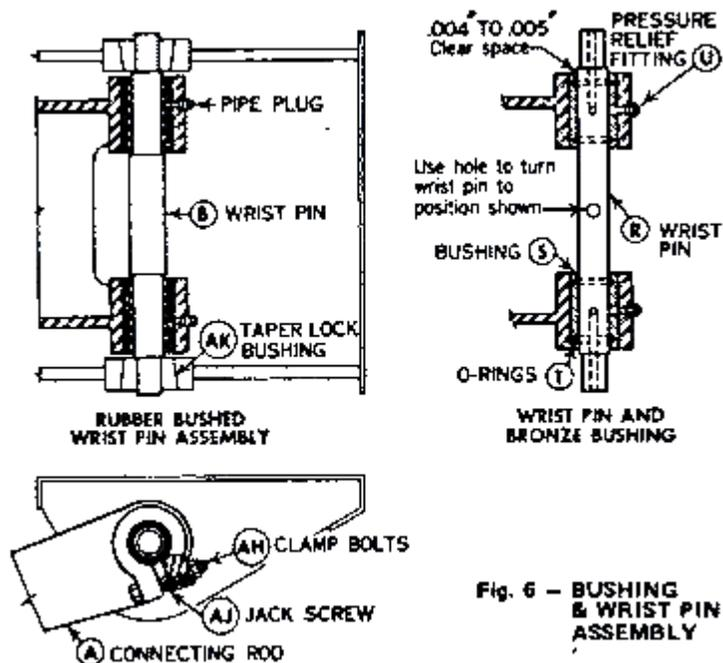

Fig. 6 - BUSHING & WRIST PIN ASSEMBLY
5. Loosen clamp bolts AH and tighten jack screw AJ to release grip on bushing. Figure 6, Page 5.
Installing eccentric drive, Figures 6 and 7.